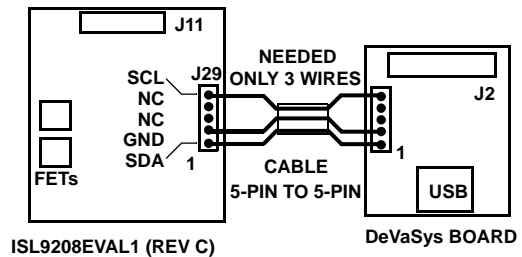

FIGURE 6. I2C CONNECTION TO ISL9208 PCB
- Connect the I2C cable from the interface board to the ISL9208EVAL1 (Rev C) as in Figure 6. The kit may come with a 5-pin to 5-pin cable or a 5-pin to 4-pin cable.